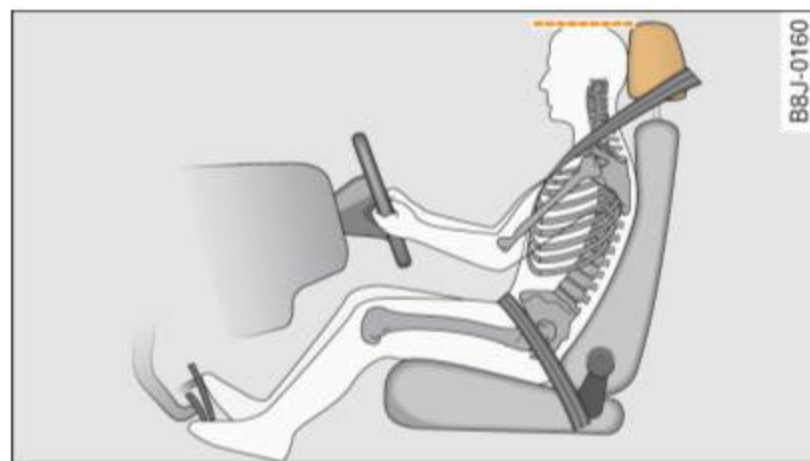

Fig. 144 Correct head restraint position for driver
- Adjust the head restraint so that the upper edge is as even with the top of your head as possible but no lower than eye level and so that it is as close to the back of your head as possible ⇒ fig. 144.